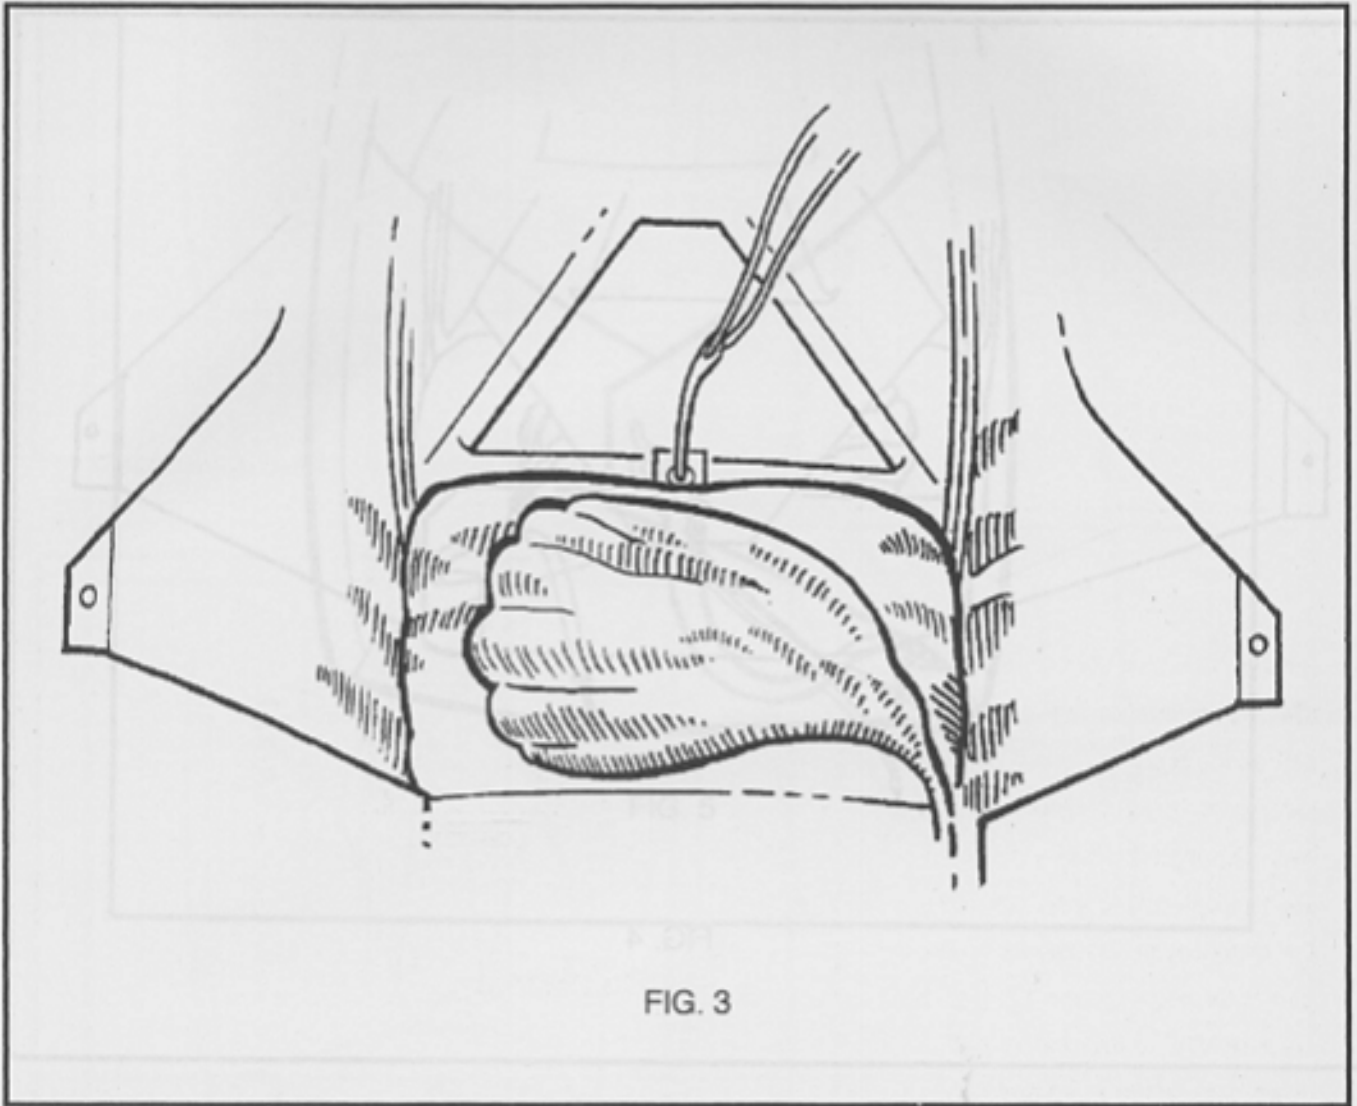

FIG. 3
3) Loosely fold the pilot chute and lay it across the bag as shown in FIG.3.
Loosely fold the pilot chute and lay it across it and lay the ends of the pilot chute as shown in FIG. 3.